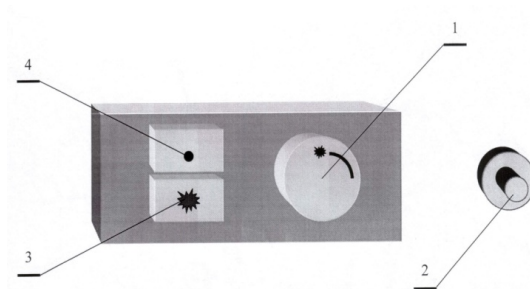

Fig. 5. Control and shut-off valve control
- set the thermoregulator knob of the control and shut-off valve to position [Fig. 5. - 1],